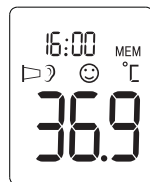

Figure 8
2. The thermometer will automatically memorize the last 10 temperature readings. Each memory also records the measurement date/time/mode icon. Each time the **⏻** Button is pressed, the screen displays past readings that correspond with a number 1-10. The number 1 reflects the most recent reading, while the number 10 reveals the oldest reading stored in memory. (See Figure 8)